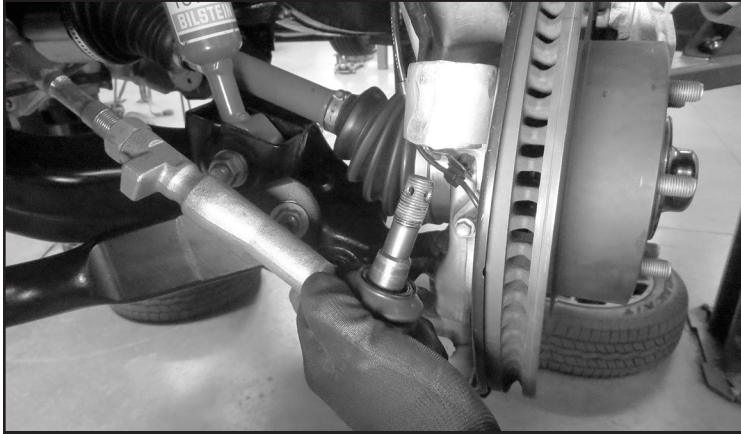

FIGURE 1 - STEP 2
2. Remove the cotter pin from the tie rod end ball joint. Loosen the nut and using a hammer strike the knuckle ball joint housing to dislodge the tie rod end. **Careful not to damage the tie rod end.** SEE FIGURE 1